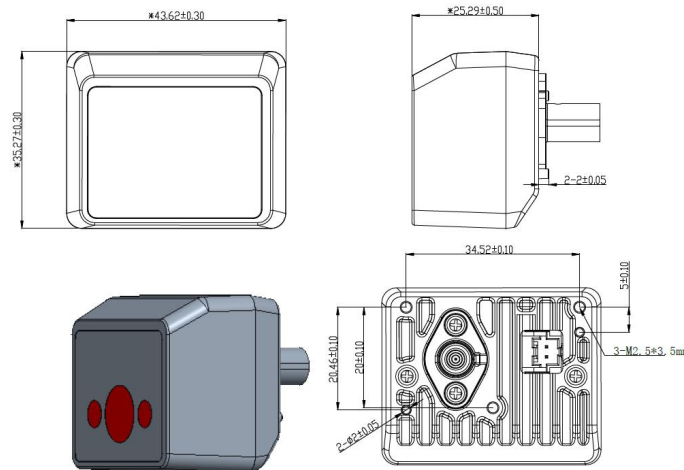

Figure 14
- AA lenses have different flange rear focal heights for different AA lenses, and the protrusion height of the lens base is different. Please refer to 3D data for details, as shown in Figure 14. The height (7.8mm) is uncertain and needs to be determined based on the position of the AA lens flange.
The camera shell is made of metal and requires two 2mm diameter positioning columns at the back of the camera for positioning and three M2.5 screws for fixation. After fixation, it cannot be shaken. The structural dimensions and hole positions are shown in Figure 14.